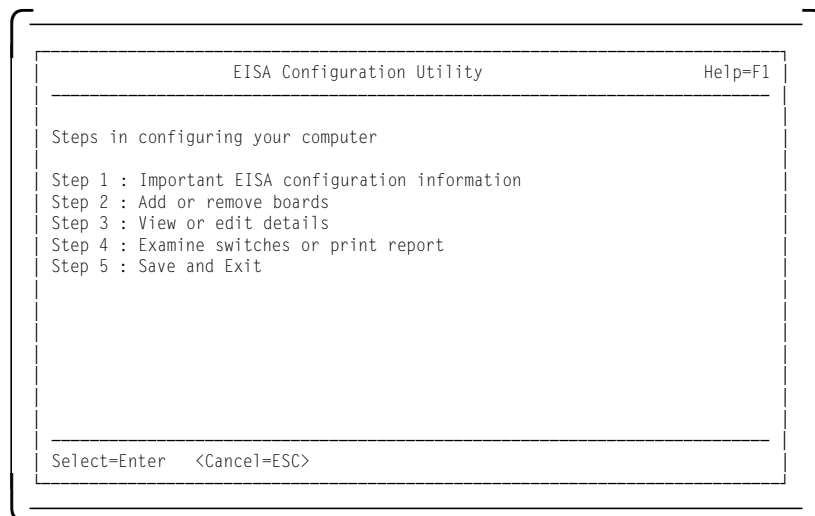

Figure 29. EISA Configuration Utility - Steps
3. Press Enter. A screen like the one in Figure 29 will appear.